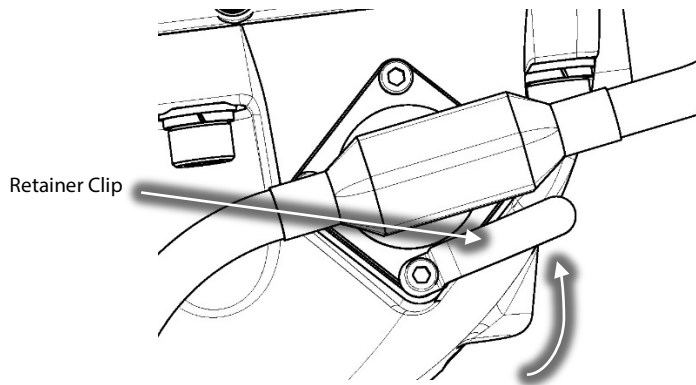

Figure 27 – Retainer Clip Rotation
15. Rotate the Retainer Clip until it is directly above the IGV Connector and torque the screw to 5 Nm (44 in.lb.). Refer to Figure 27 (Retainer Clip Rotation).